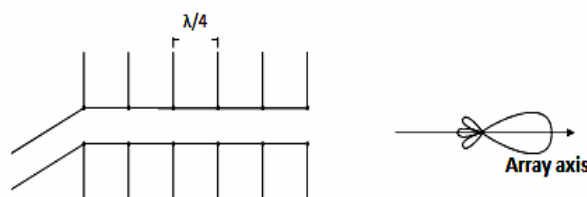

Fig.1.31 Endfire array and its radiation pattern
***The end-fire array, as the name suggests has the main beam directed along the axis of the array*** (as shown in fig 1.31).